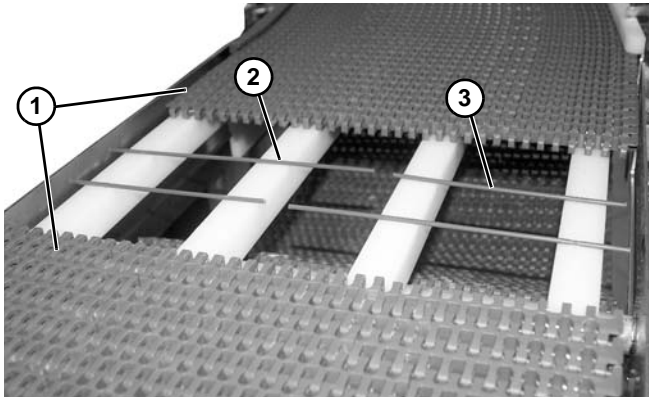

Figure 40
3. Connect ends of belt (Figure 40, item 1) together.
Depending upon the sequence of the previous belt rod installed, short (Figure 40, item 2) and long (Figure 40, item 3) rods could be either on the outside or inside of conveyor.